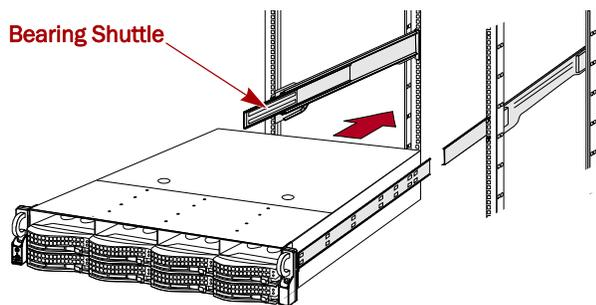

Figure 9. Inserting Expansion Array Into Rack
2. Confirm that the ball-bearing **shuttles** are at the **front** (Figure 9).